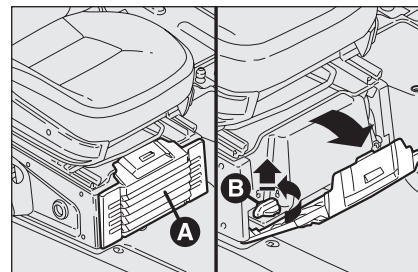

fig. 92
- ☐ Open lid **A** and remove it as shown in fig. 92: